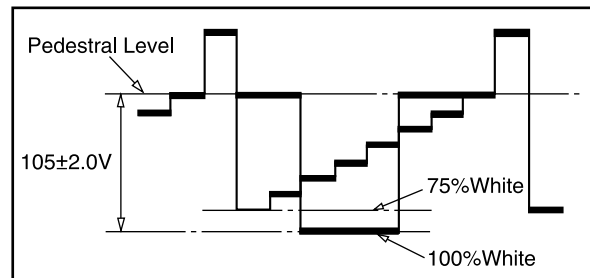

Fig. 3-2
2. Using the volume keys on the jig remote controller adjust the pedestal level and the voltage of 100% white to  $105 \pm 2.0V$ , according to Fig. 3-2.